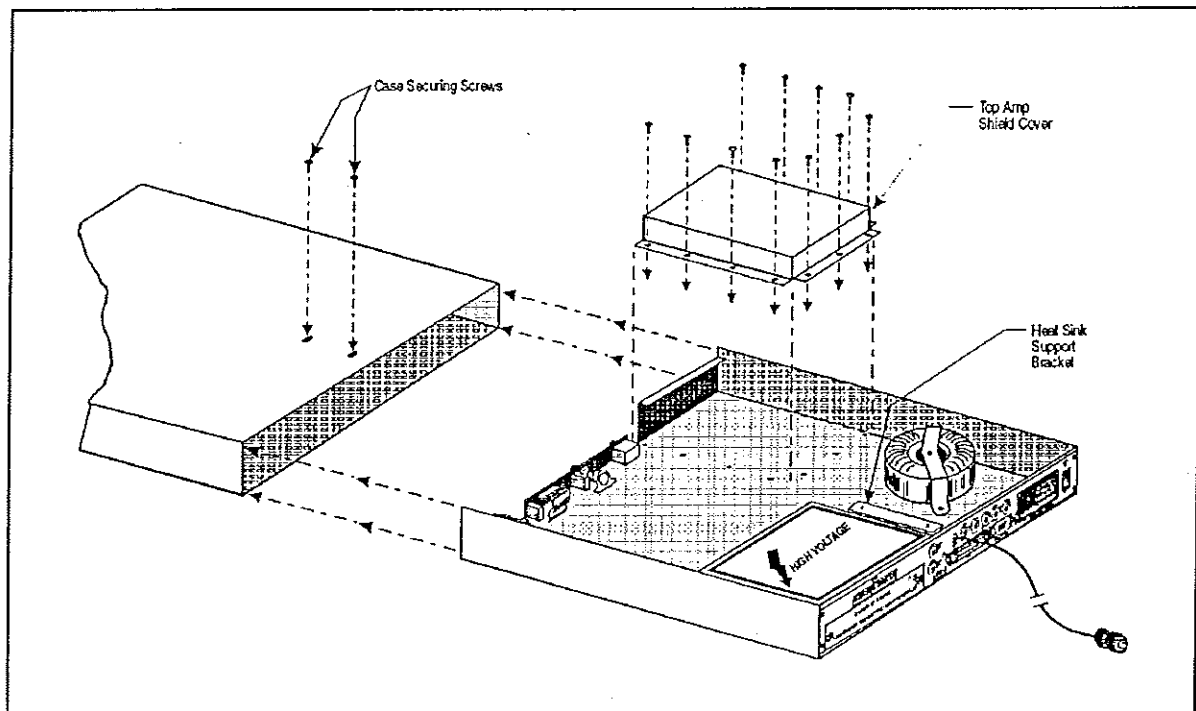

Figure C.2 Top Shield Cover Removal
3. Remove the two case securing screws located at the top of the case (see Figure C.2).
8. Reinstall the two case securing screws (see Figure C.2).
2. Remove the 14 screws and lock washers securing the amplifier top shield (see Figure C.2). Leave the bottom cover in place.